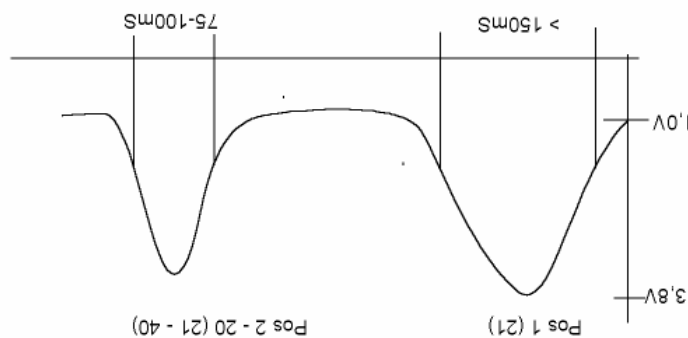

Fig 2
3. Connect an oscilloscope to TP1 and gnd. Check the pulswith. Fig2